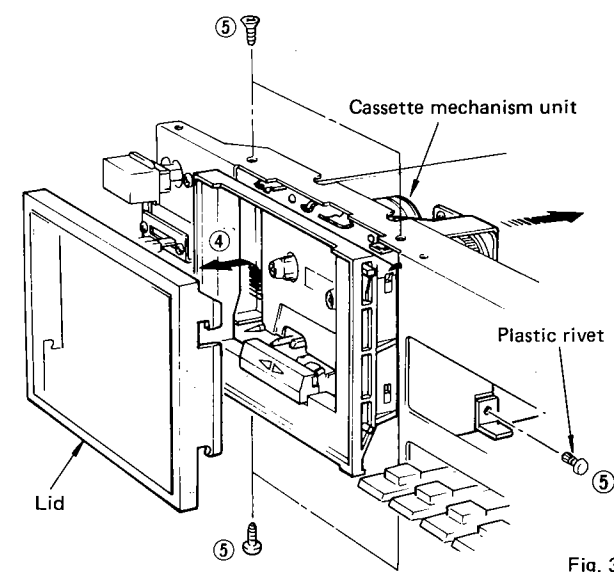

Fig. 3
b. Remove the lid (④) in Fig. 3.
d. Remove 4 screws and plastic rivet (⑤) in Fig. 3 and then pull off the mechanism unit to the back side gently.